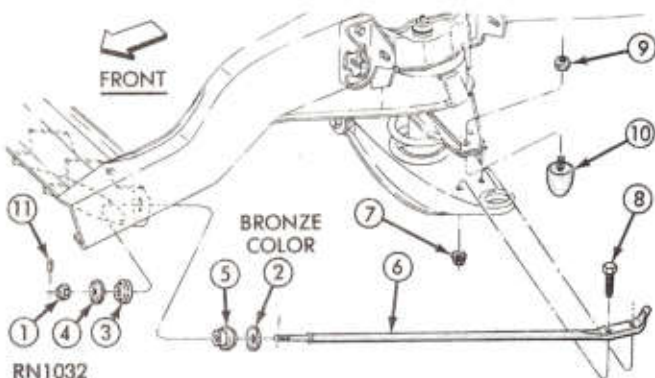

Fig. 3—Lower Control Arm Strut and Related Parts
- (1) Raise vehicle on hoist.
- (2) Using a small drift and hammer, drive spring pin from front of strut. Remove spring pin, nut, retainer and bushing.
- (3) Remove rear mounting bolts along with the jounce bumper and bracket. Remove strut (Fig. 3).
LEGEND FIG. 3